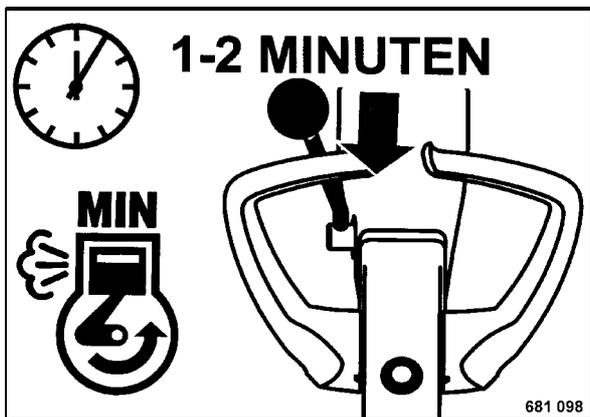

Fig. 25
- Shift the throttle lever to position "Min" (Fig. 25) and let the engine run with idle speed for a short while.